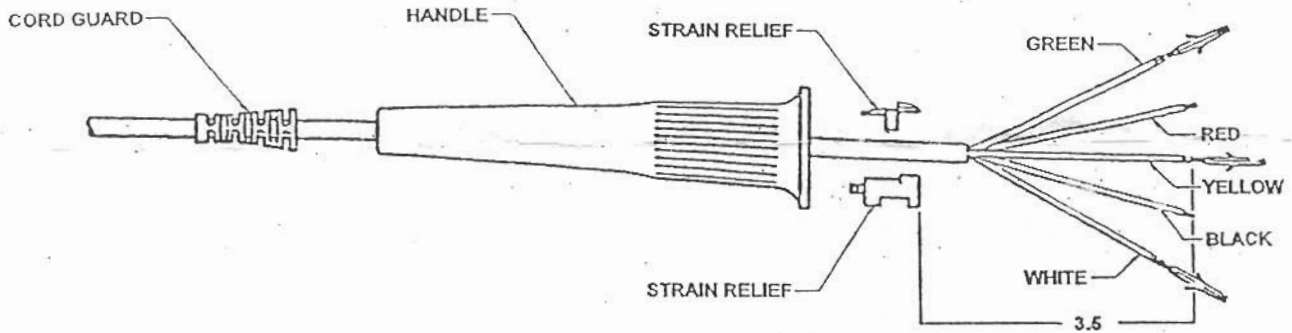

FIGURE 3
1. Slide new cord guard and handle onto cord (see Figure 3).
2. Position new strain relief on cord 3.5 inches from end of cord (see Figure 3).